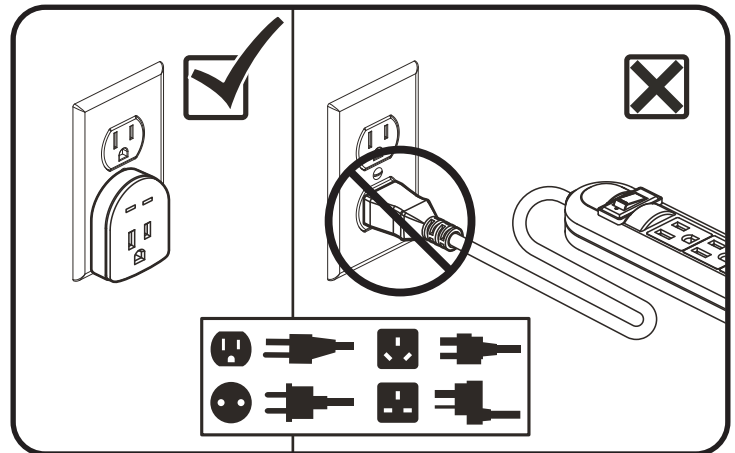

Figure 4.2 Surge Protector
7. Plug the power lead directly into the electrical outlet. **Do not use an extension lead! (fig. 4.2).**